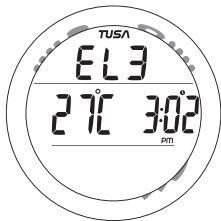

Fig. 88 - GAUG SURF ALT
- Depress the A button for 2 seconds to the GAUG SURF ALT screen (Fig. 88 - Altitude, Temperature, Time of Day).